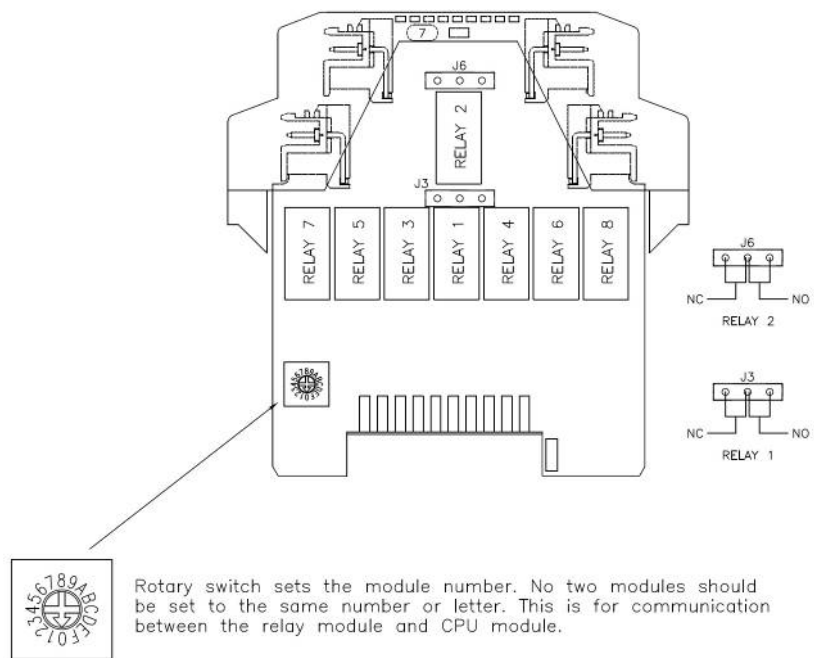

Figure 35: GEN2 Relay Module Detail View
The Flex M Relay module allows the control of high current power (up to 8A) for attached equipment through eight relay outputs. All eight relays have individual inputs contacts, and two relays (K1 and K2) can be configured manually for either normally open (NO) or normally closed (NC) contacts. To configure K1 and K2, remove the board as described in Section 7.3, then refer to Figure 35 for the appropriate jumper setting. The relay module number is set by the rotary switch located on the lower left corner of the board.